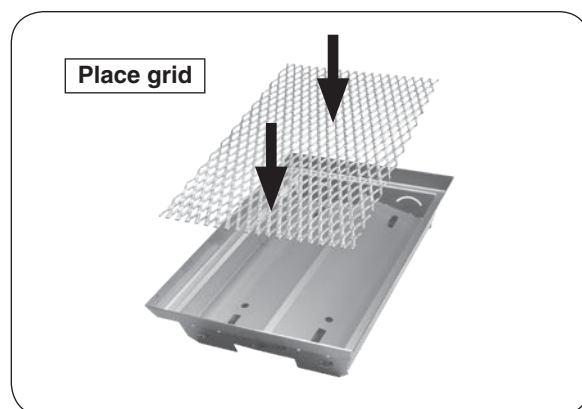

Fig. 35-2 Place grid inside basket
1. Place grid inside the basket frame (see Fig. 35-2).